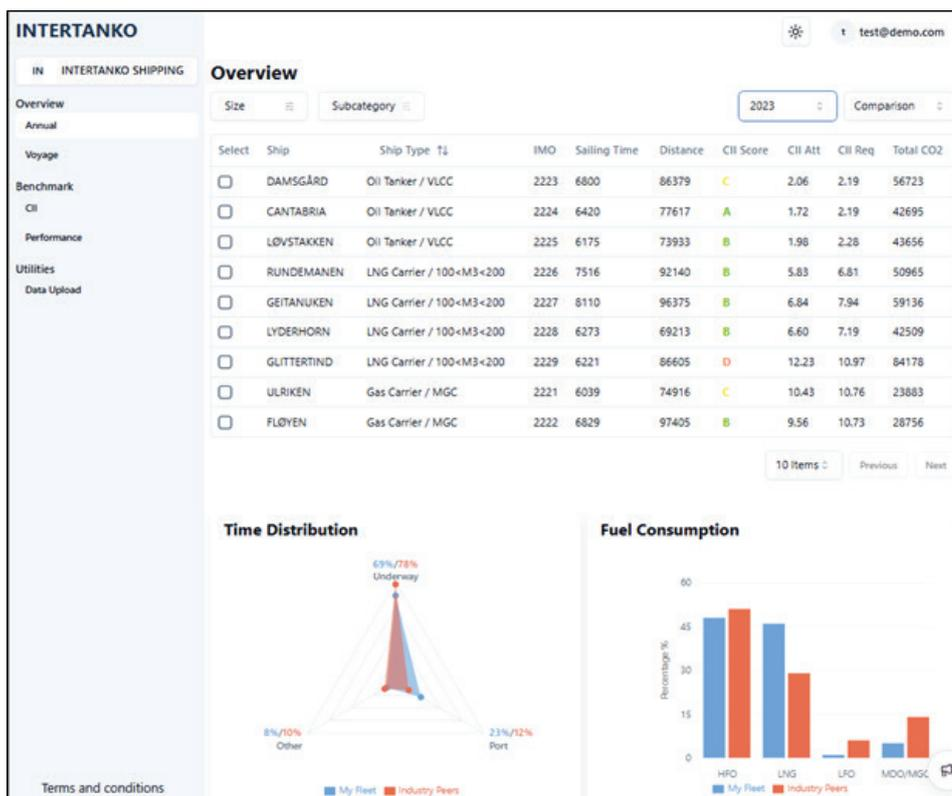

Figure 3 Landing page of the GHG Application
When a Member is requesting access to the application for the first time and there is no data uploaded for their ships, the GHG Benchmarking tool will show all the tables and graphs empty. To upload DCS data, the User simply needs to click on “Utilities/Data Upload” in the application (see Figure 3) or enable the API transfer from DNV Data Workbench if applicable.
- **Size filter¹**: This filter automatically categorises tankers by type (e.g., Oil Tanker, Oil Products/Chemical Tanker, Chemical Tanker, Gas Carrier, LNG Carrier) and by size category (e.g., VLCC, MR2, VLGC). While size categories typically cover a wide range, which may bias the analysis, the GHG Benchmarking Tool allows users to narrow the size range for more precise insights, as shown in Figure 3: